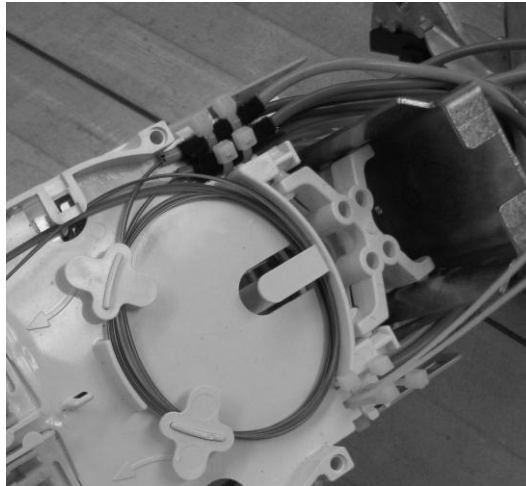

Figure 10 – Fasten the buffer tubes to the splice tray.
4.15 Wrap the ends of the buffer tubes with felt tape and fasten to the splice tray using the small cable ties as shown in Figure 10.